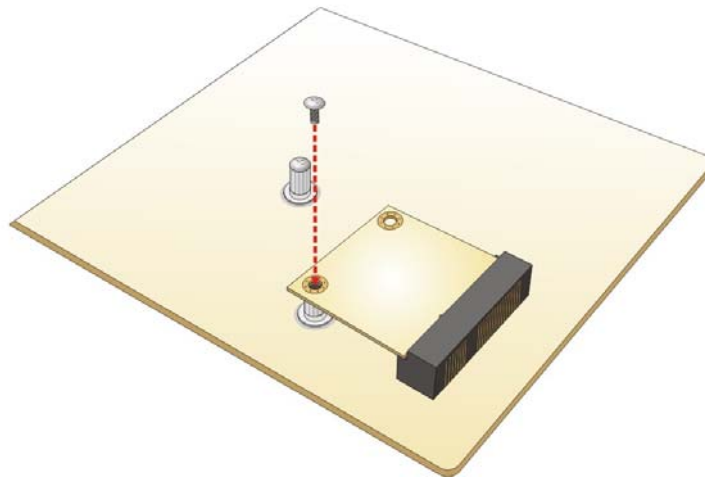

Figure 3-15: Securing the Half-size PCIe Mini Card
Step 5: Secure the half-size PCIe Mini card. Secure the half-size PCIe Mini card with the retention screw previously removed (**Figure 3-15**).